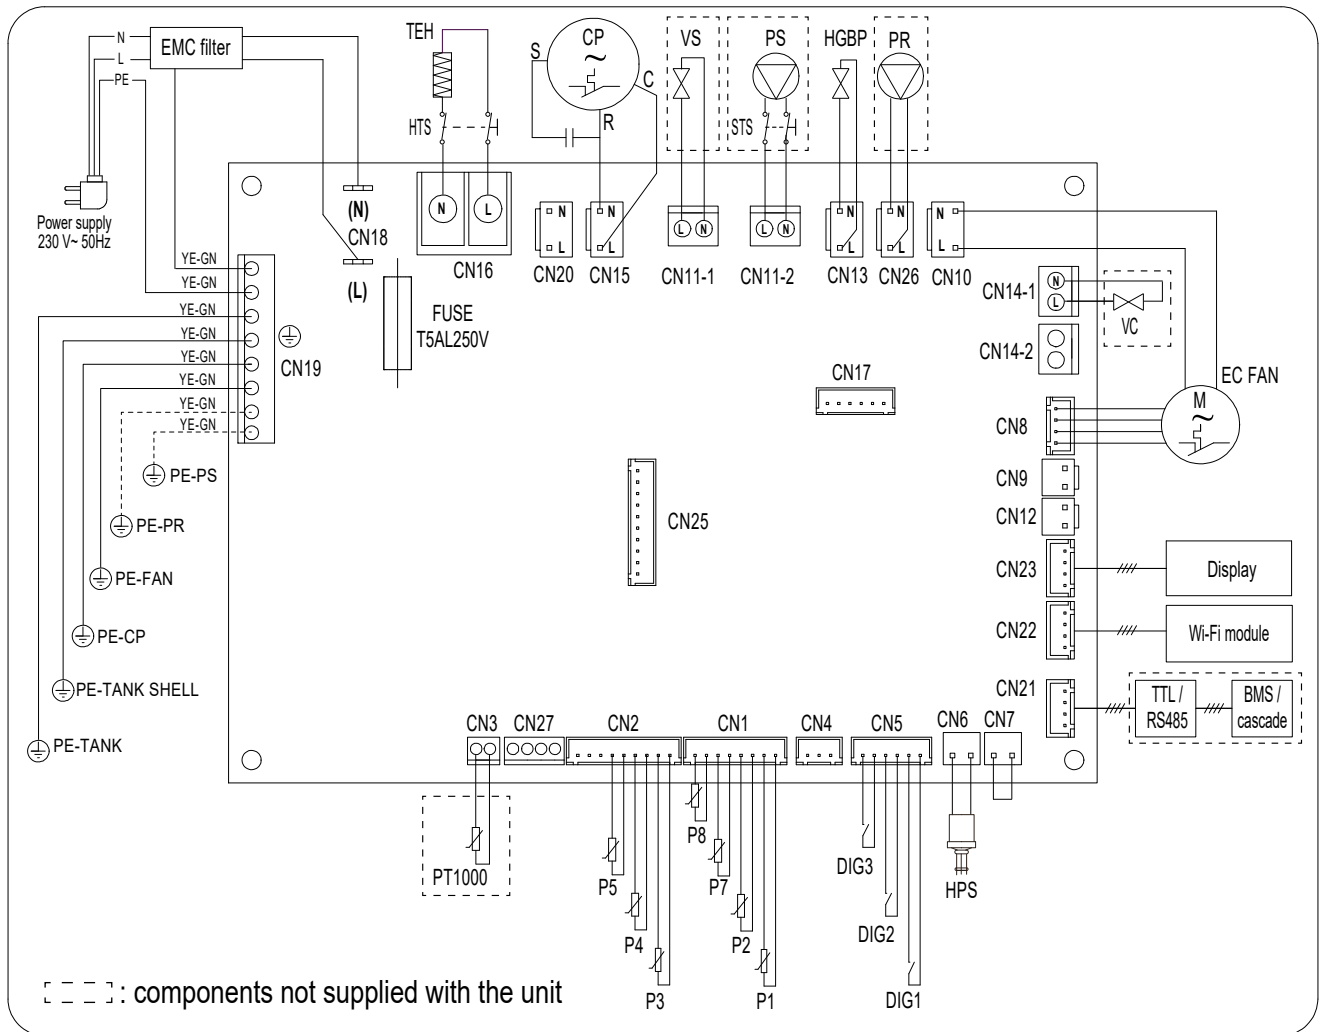

fig. 72 - Wiring diagram of the equipment
- 1) The recirculation pump (part.16) must be connected to terminal CN26 of the master motherboard (ref. "fig. 72 - Wiring diagram of the equipment" on page 189).
- 2) Fit a normally open solenoid valve (part. 19) for each unit in the cascade. The valve must be connected to terminal CN14-1 (ref. "fig. 72 - Wiring diagram of the equipment" on page 189) of the mother board of each unit.